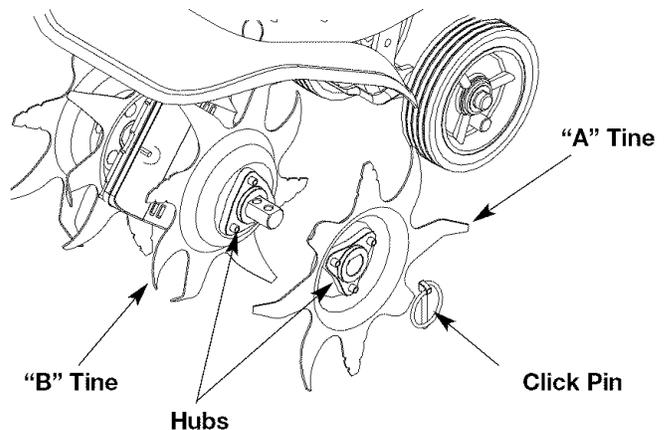

Fig. 14
- Put the On/Off Stop Control in the STOP (O) position and disconnect the spark plug wire.
- Remove the click pin from each end of the tine shaft. Slide the tines off the shaft (Fig. 14).